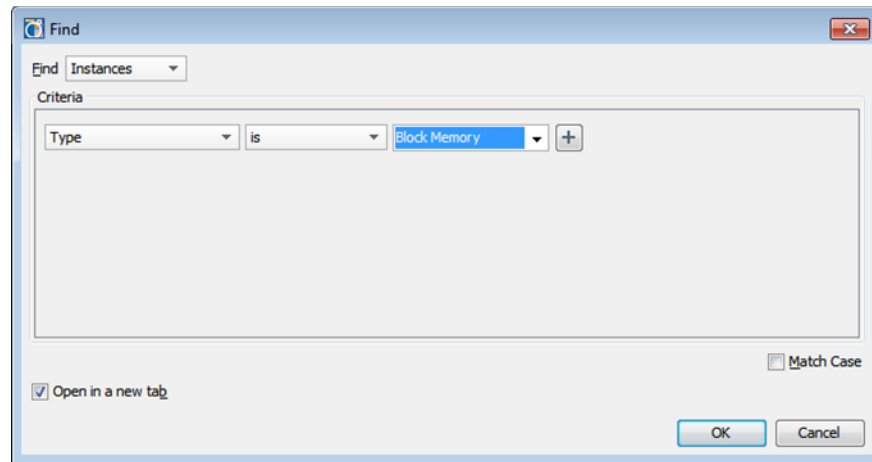

Figure 36: Find Dialog Box
2. Change the Instances search Criteria to be **Type > is > Block Memory**, as shown in FIGURE 36.